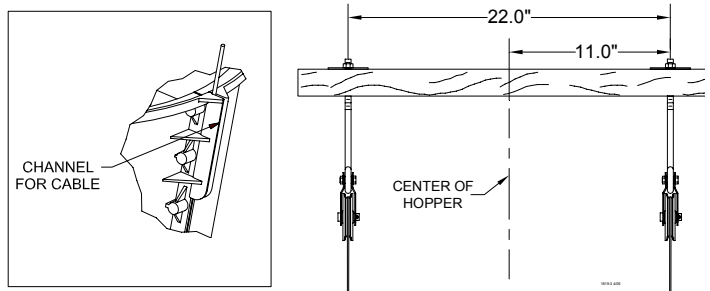

Figure 3.
8. Install two pulleys to the ceiling trusses directly above the feeder line where the hopper is to be located. The pulleys should be spaced 22" apart (11" from the center of the hopper in both directions). See **Figure 3**.